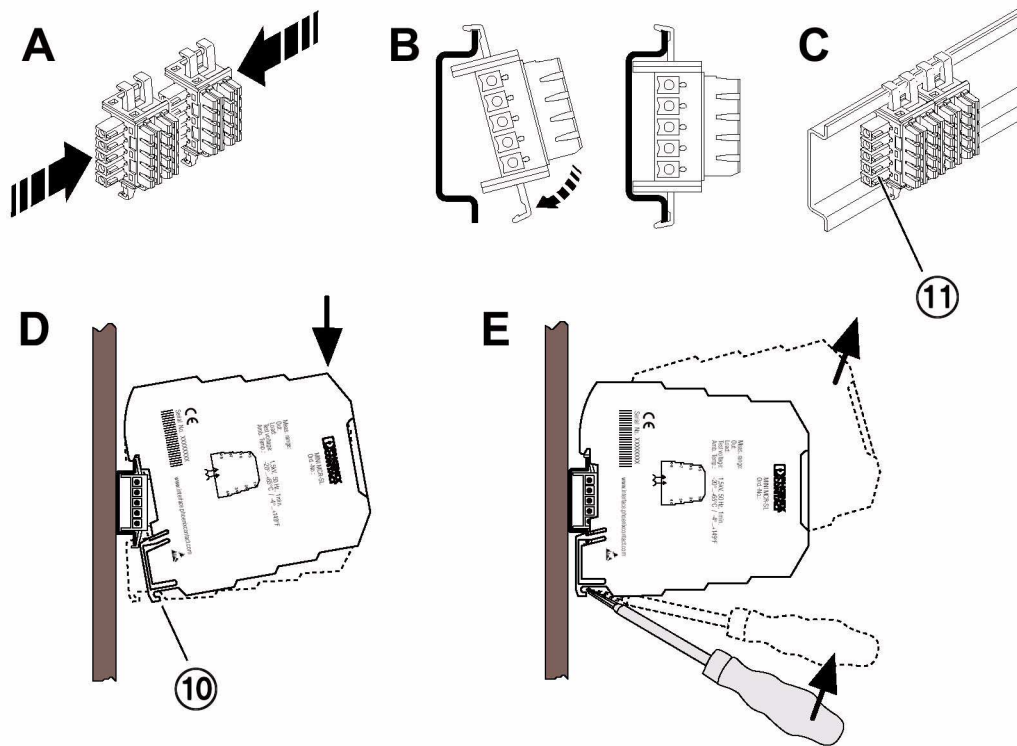

Figure 5 Mounting/Removing
Snap-on foot (Figure 5, detail D 10)
below and **plug** (Figure 5, detail C 11)
- First position the DIN rail connector in the DIN rail to bridge the voltage supply (see Figure 5).